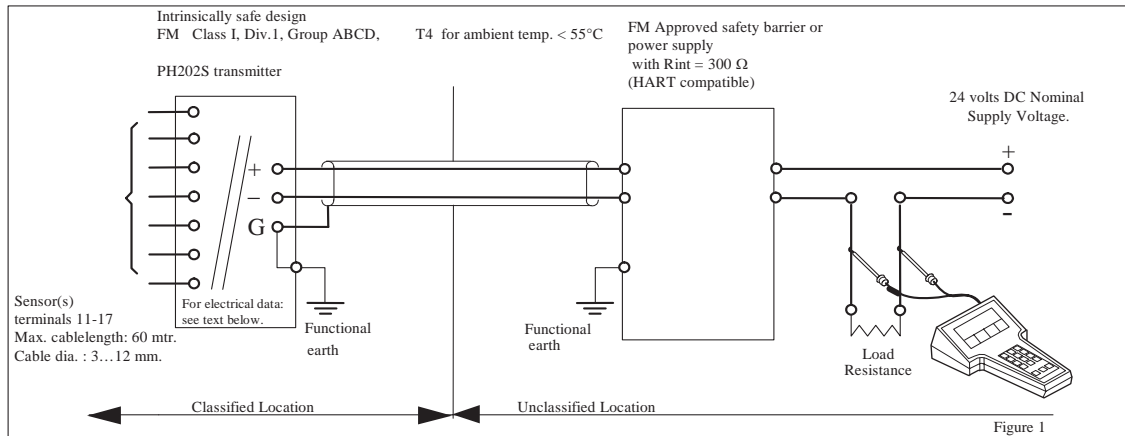

Figure 1
- If Hand Held Terminal (HHT) is not connected to the power supply lines of the PH202S (see figure 1):